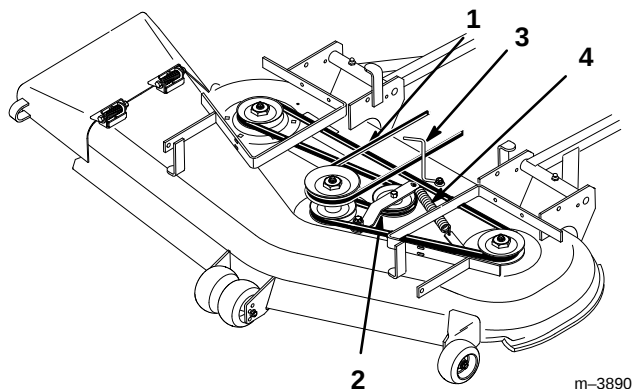

Figure 49
3. Remove idler spring from idler arm, then remove the worn deck belt (Fig. 49).
4. Install the new deck belt around the spindle pulleys, belt guide, the idler pulley, and in the lower groove of the center spindle pulley (Fig. 49).